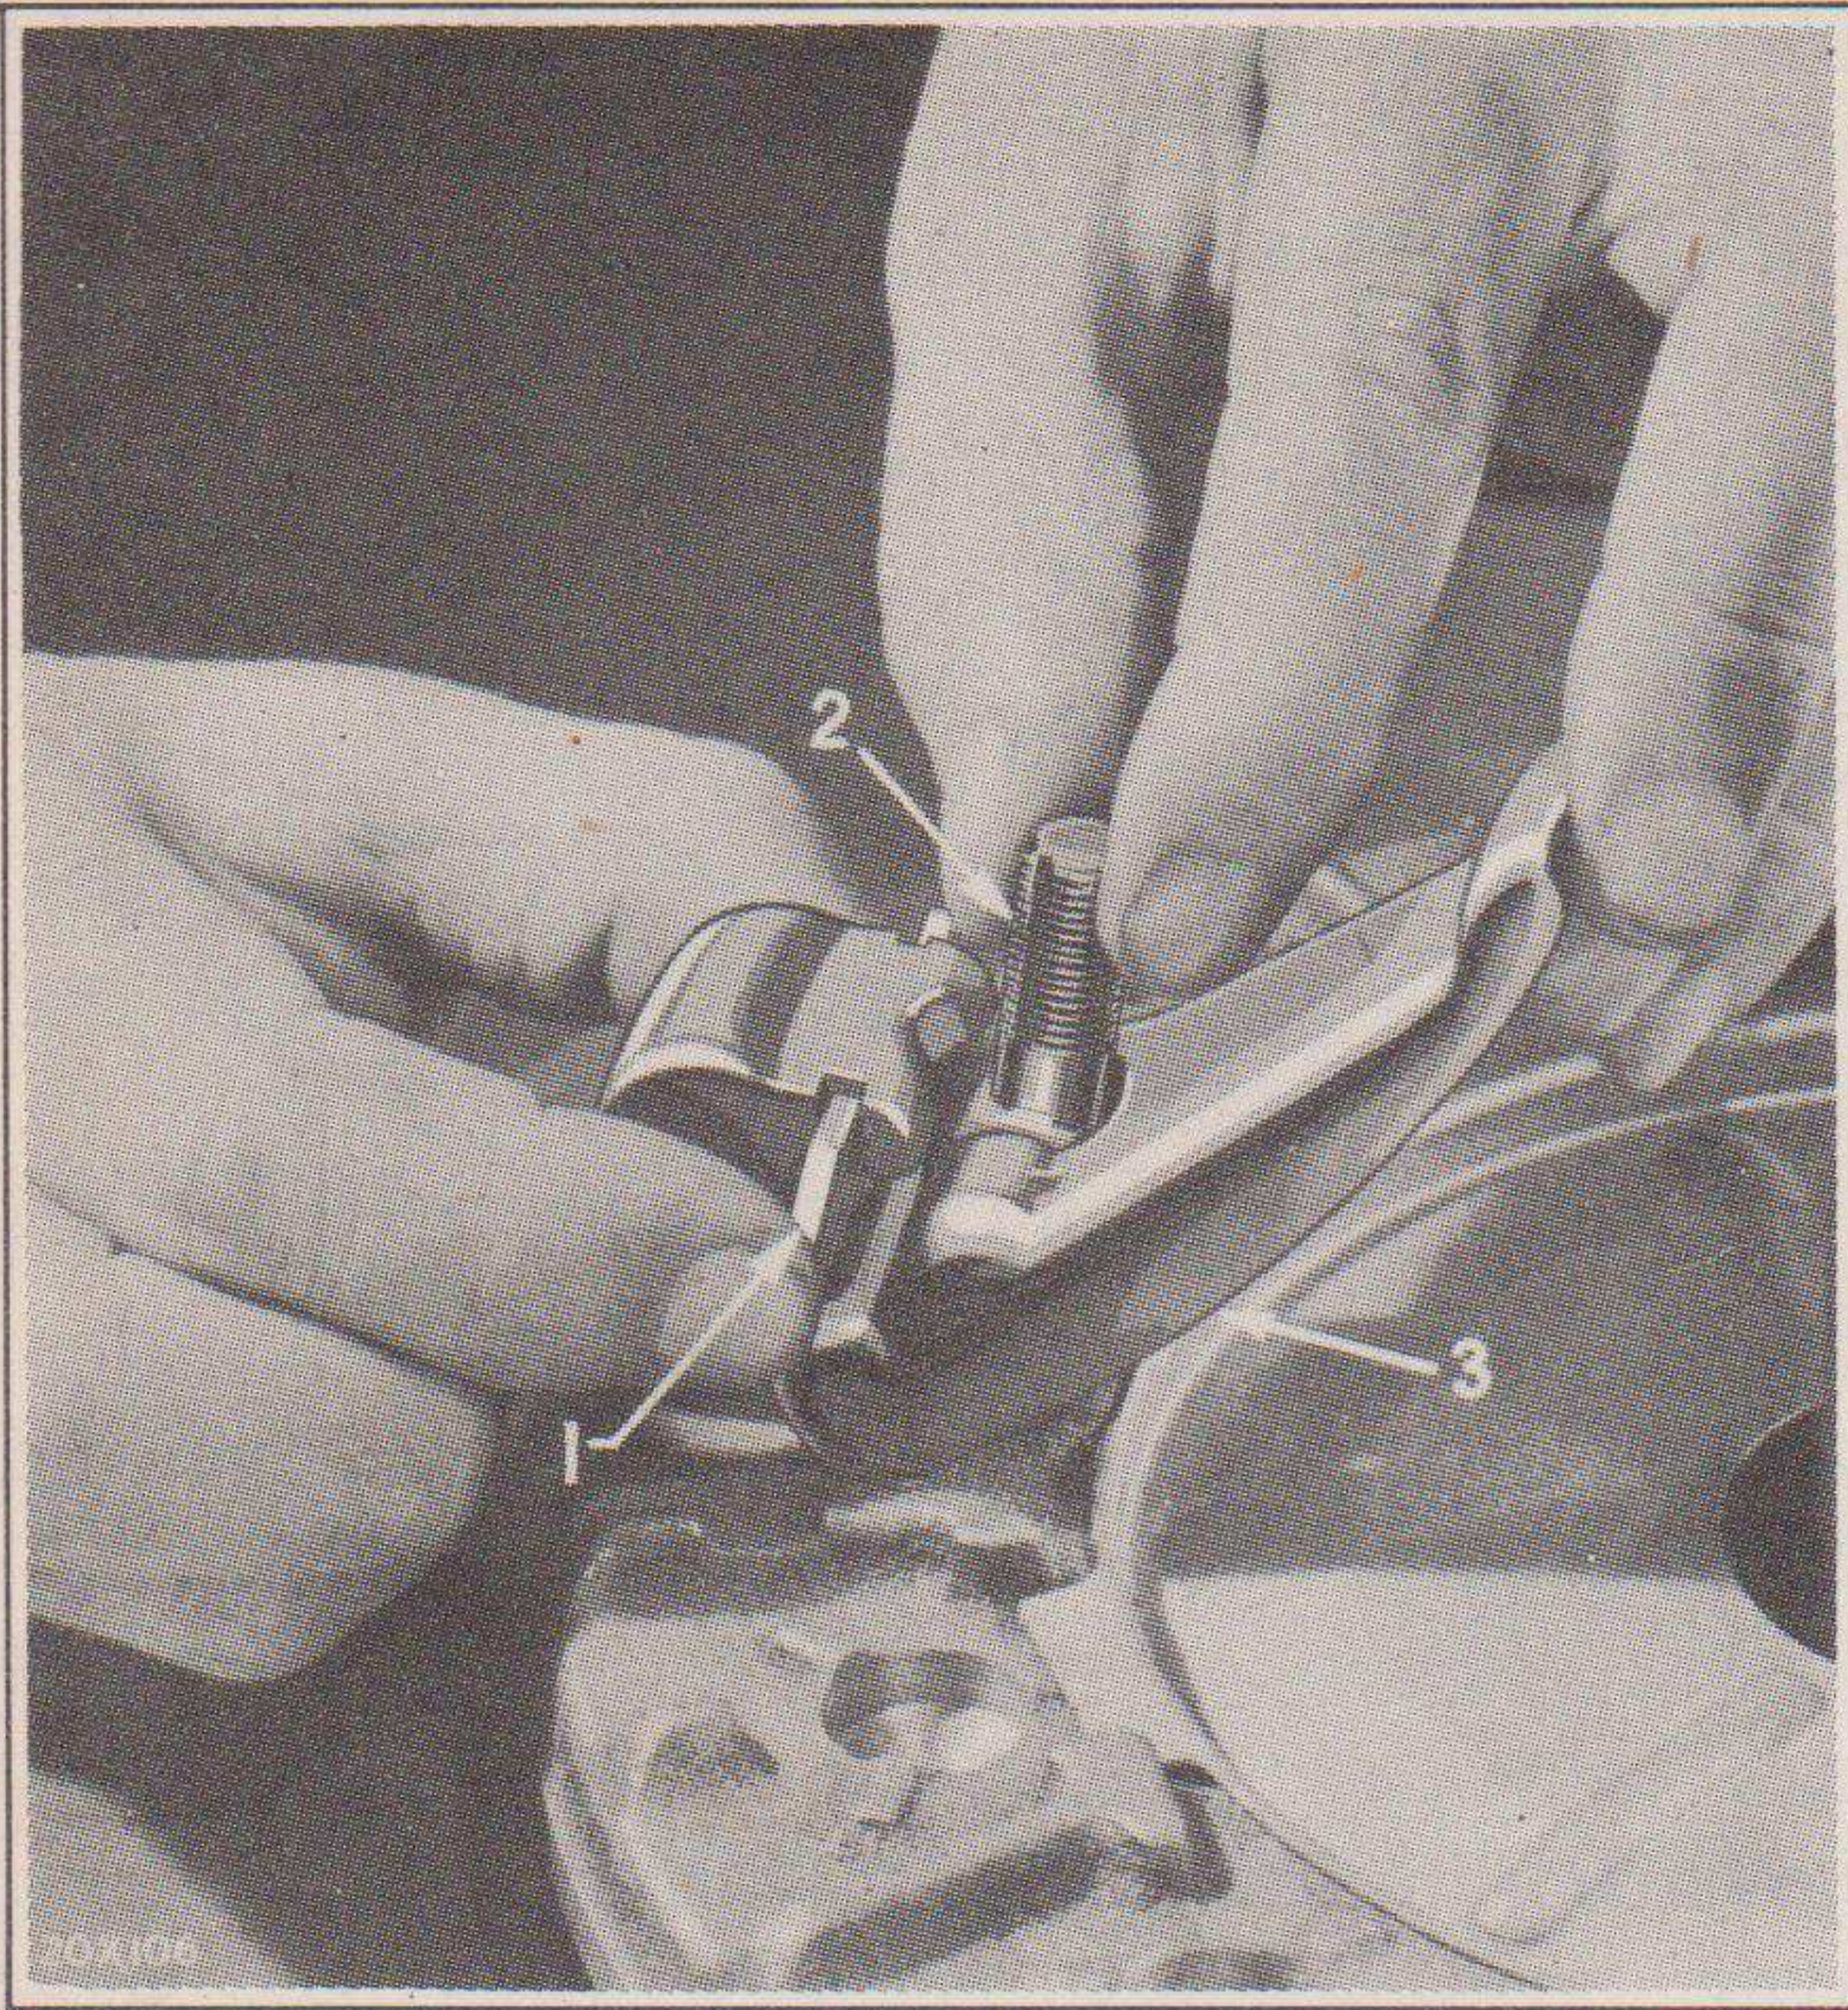

Fig. 92—Removing or Installing Release Lever
- (h) To remove the release levers, grasp the lever and eye bolt between the thumb and fingers, as shown in Fig. 92, so that the flat side of the lever and upper end of the eye bolt are as close together as possible, keeping the eye bolt pin seated in its socket in the lever. The strut (1, Fig. 92) can then be lifted over the ridge on the end of the lever, making it possible to lift the lever and eye bolt off the pressure plate. It is advisable to replace any parts which show wear.
Hold the threaded end of the eye bolt between the thumb and index finger, with the lever end resting on the second finger (Fig. 92). Hold the lever and eye bolt close together. With the other hand, insert the strut in the slot of the pressure plate lug. By lifting the strut upward and tilting it at the same time, it will pass the ridge on the lower end of the lever and drop into its groove in the lever.